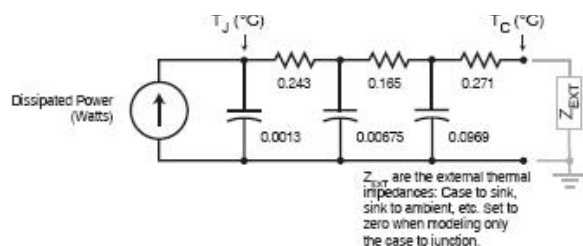

Figure 16 Transient Thermal Impedance RC Model
Thermal impedance test equipment applies power pulses of varying duration to the DUT, waiting for the junction temperature to settle back down between each pulse. This measures the ‘single pulse’ transient thermal impedance response. From this, a curve fit is used to create a resistor-capacitor (RC) model. Figure 16 shows such a transient thermal impedance RC model. Some datasheets may show the capacitors and resistors in parallel, but this is an error. The capacitors are “grounded” as shown in Figure 16, and the component values remain the same. There is no physical significance to the intermediate nodes in the model. Various numbers of resistor-capacitor pairs are used simply to create a good fit to actual measured thermal impedance data.
To simulate temperature rise with the RC model, you apply a current source whose magnitude is the power being dissipated in the MOSFET. Thus you can use PSPICE or other electronic simulator to apply an arbitrary power loss input. From this, you can estimate the junction-to-case temperature rise as the voltage across the ladder by setting Z_{EXT} to zero (a short), as shown in Figure 16. You can extend the model to include a heat sink by adding additional capacitors and/or resistors.